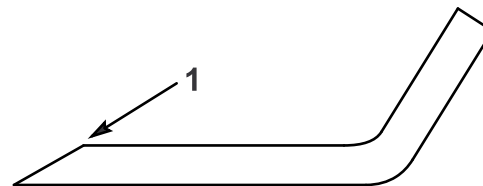

Figure 42
1. Use a file to sharpen the cutting edge at both ends of each blade (Figure 42).